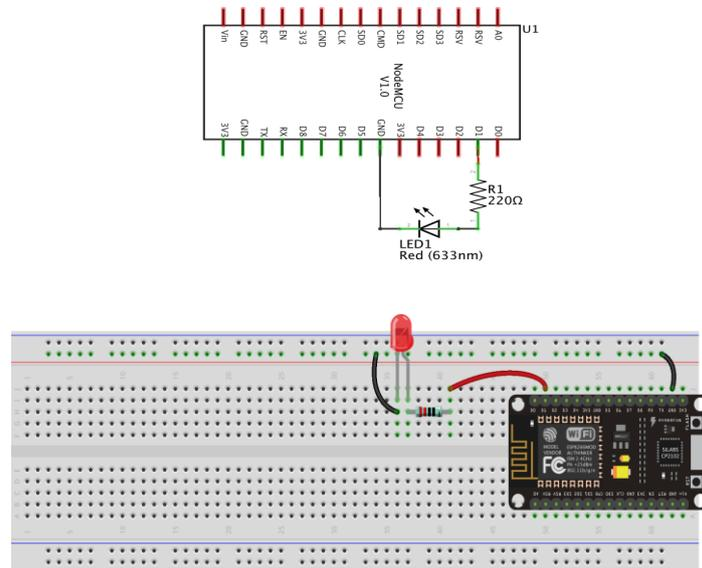

Figure C1
27. Construct the following circuit using the given kit as **Figure C1**.